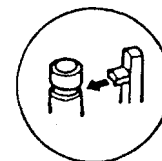

Figure I-64.
1. Use care not to deform the parts hooked to the slow brake shaft cap, take-up loading gear, and supply loading gear as shown in Figure I-64.